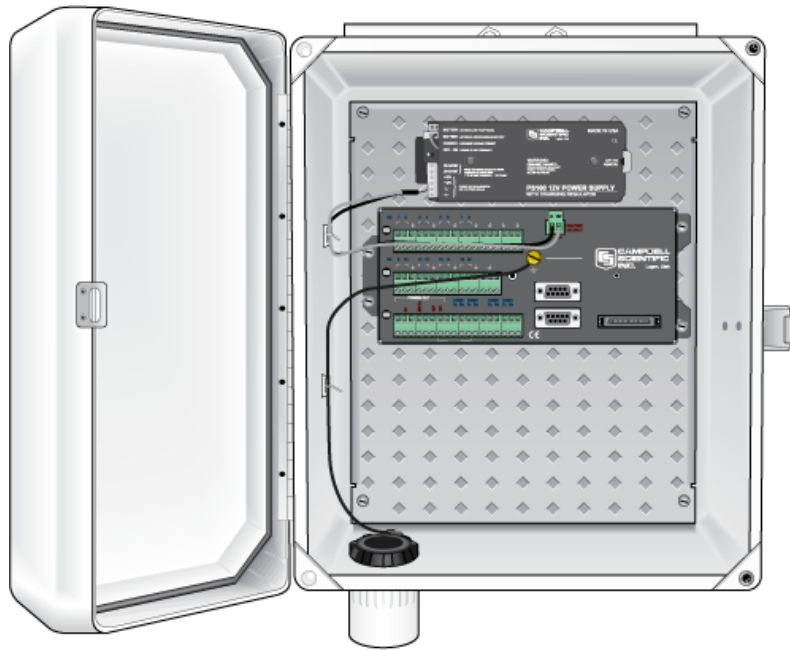

FIGURE 3.1-5. CR1000 and PS100 mounted to an enclosure backplate
The CR1000 Datalogger and PS100 12 V Power Supply mount to the enclosure backplate as shown in Figure 3.1-5. Two screws (PN 447) attach the CR1000, four screws (PN 505) attach the PS100.
3. An AC transformer or unregulated solar panel (Section 3.1-5) should be connected to the PS100 at all times. Connect the lead wires from the transformer or solar panel without regard to polarity to the two terminals labeled "CHG" (Figure 3.1-5); the red LED should light when voltage is present.